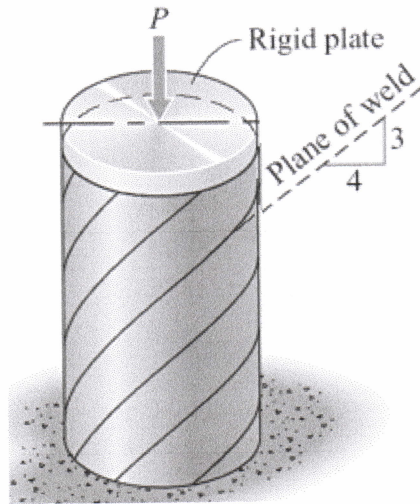

Figure Q1
- Q1.** The cylindrical pressure tank shown in **Figure Q1** has an inside diameter of 1.2 m and fabricated by butt welding 20 mm thick plate with a spiral seam. The pressure in the tank is 3000 kPa and axial load, $P = 130\text{kN}$ is applied to the end of the tank through a rigid bearing plate. Determine